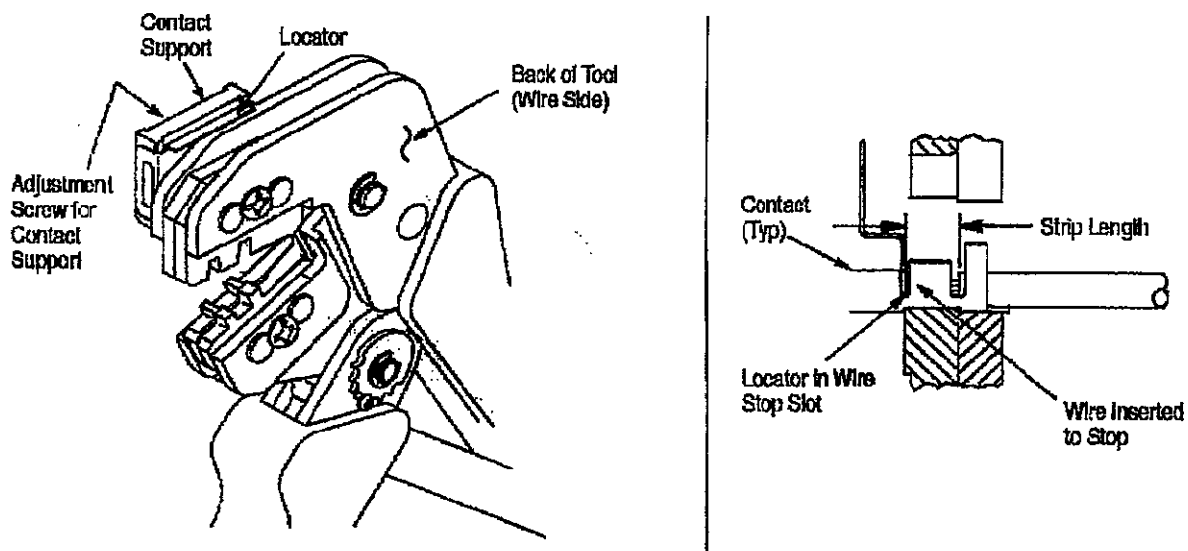

Figure 3
ADJUSTMENT (Figure 3)
Refer to the table in Figure 1 and select wire of the specified size and insulation diameter. Strip the wire to the length indicated in Figure 1, taking care not to nick or cut wire strands. Select an applicable contact and identify the appropriate crimp section according to the wire size markings on the tool. Refer to Figure 3 and proceed as follows:
3. Position the contact so that the mating end of the contact is on the locator side of the tool, and so that the "U" of the wire and insulation barrels must face the tool. Place the contact up into the nest so that the movable locator drops into the slot in the contact. Refer to Figure 3. Butt the front end of the wire barrel against the movable locator.
5. Insert stripped wire into contact insulation and wire barrels until it is butted against the wire stop, as shown in Figure 3.
The crimped contact may stick in the crimping area, but the contact can be easily removed by pushing downward on the top of the locator (see Figure 3).